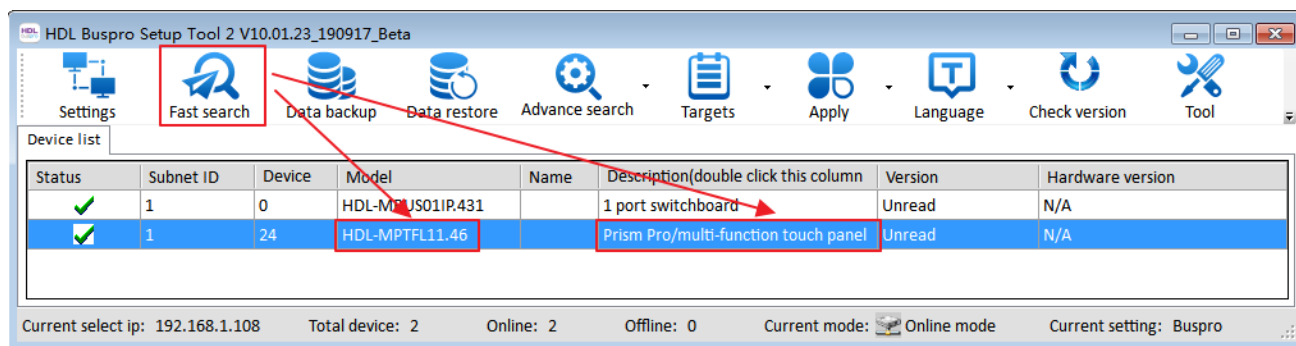

Figure 1-2 Open panel configuration page
- ① Connect the panel to the system and open Buspro Setup Tool 2 in the computer.
- ② Click “Fast Search” to search for the devices.
- ③ Double click the “Model” or “Description” column to enter panel configuration page, as shown in Figure 1-2.